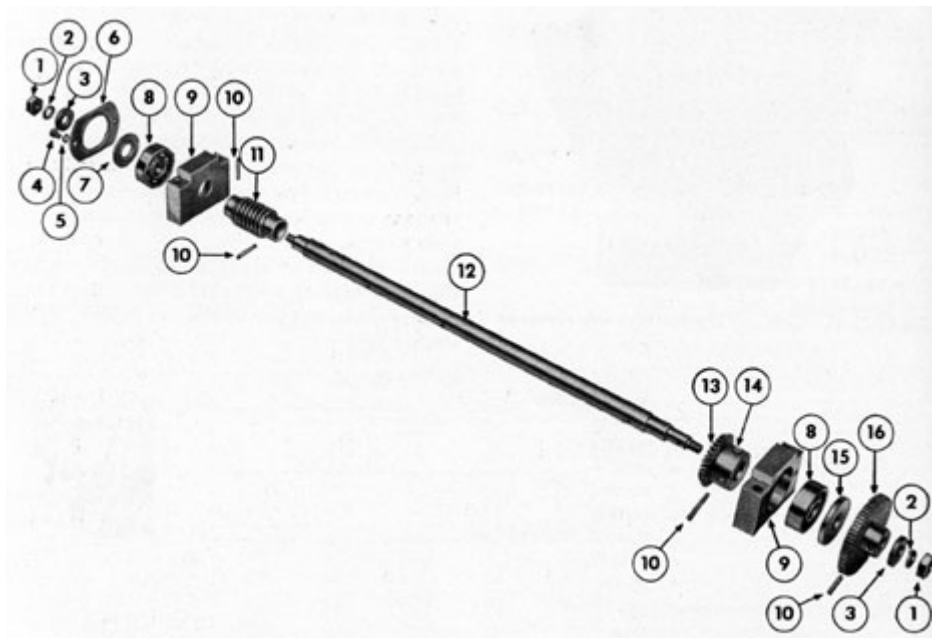

Figure 13-53. Power motor transmission shaft assembly disassembled.
**13G60. Disassembling the power motor transmission shaft assembly.** (See Figure 13-53.)
**13G59. Removing the power motor transmission shaft assembly.** (See Figure 13-53.)
**13G61. Assembling the power motor transmission shaft assembly.** (See Figure 13-53.)